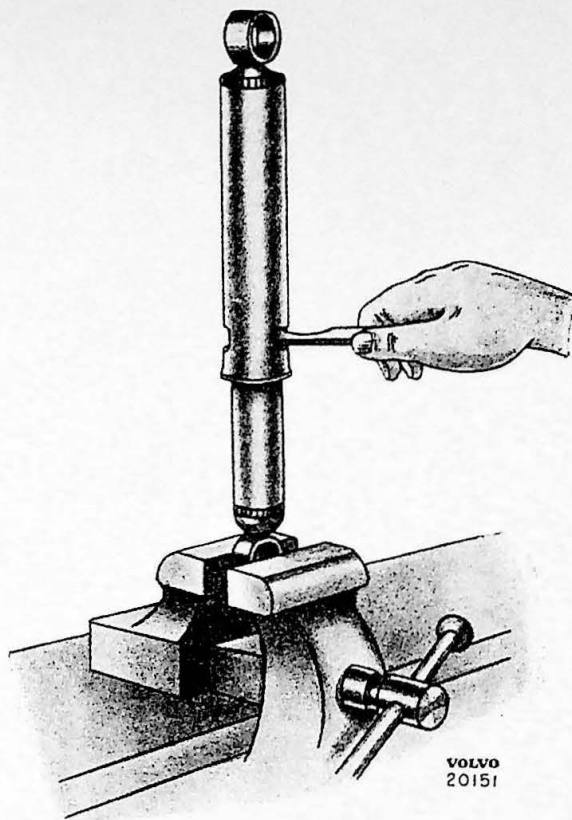
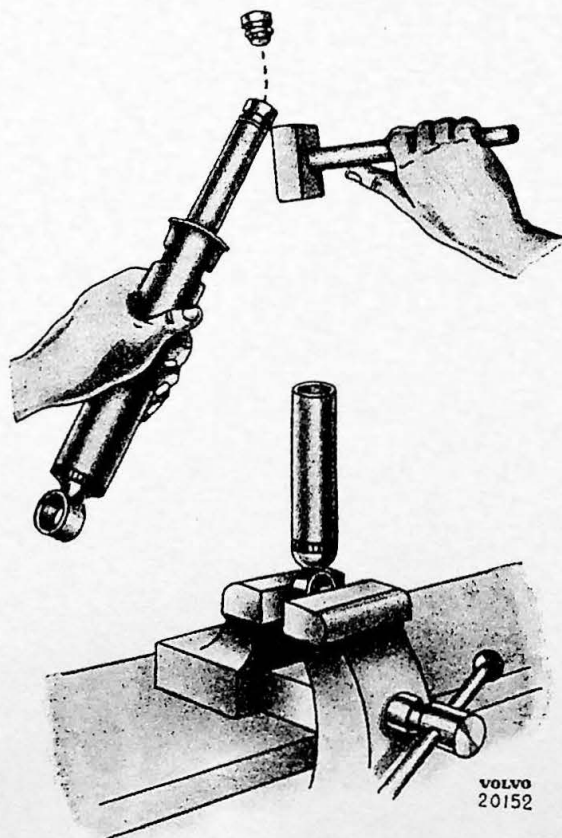
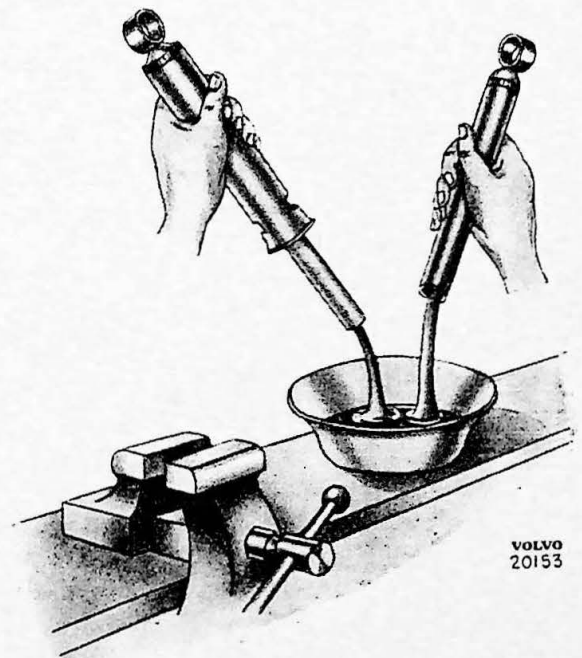

Fig. 7.
Fig. 8.
Fig. 9.
1. When the shock absorber has been removed it must be thoroughly cleaned externally and then fastened into a vice, Fig. 7.
2. Extend the shock absorber as much as possible, unscrew the cap (8) with special tool SVO 1053 and remove the pressure tube.
3. Loosen the valve (6) by giving it several light blows with a soft hammer, with the shock absorber still in the extended position, Fig. 8. Drain the cylinder (see Fig. 9) and disconnect it from the cap (8).
1. Remove and disassemble the shock absorber as instructed in points 1—3 under the heading "Disassembling the shock absorbers". Do not disconnect the pressure tube (2) from the cap (8).
N.B. Shock absorbers should be extended during these operations. See Figs 7 and 8.
2. Completely drain both of the cylinders, Fig. 9.